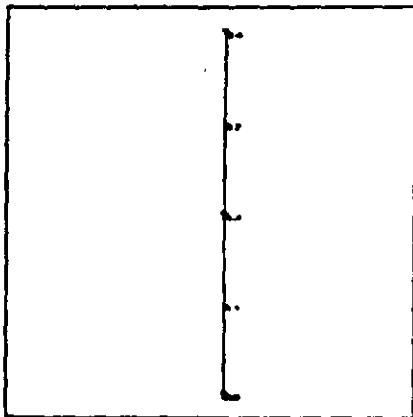
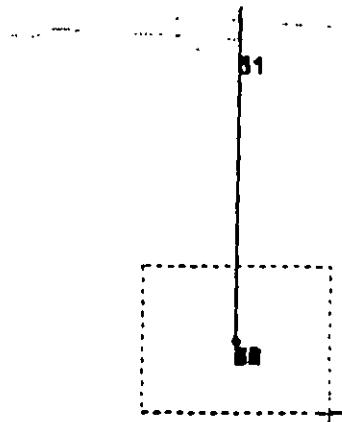

Figure 3.31
Figure 3.32
3. Select beams 1-4 and 7-10 by rotating the structure to its side position (Figure 3.31). You can use the  icon in the toolbar to accomplish this. Use the rubber band window to select the bottom beams by just creating a box around the bottom node (Figure 3.32).